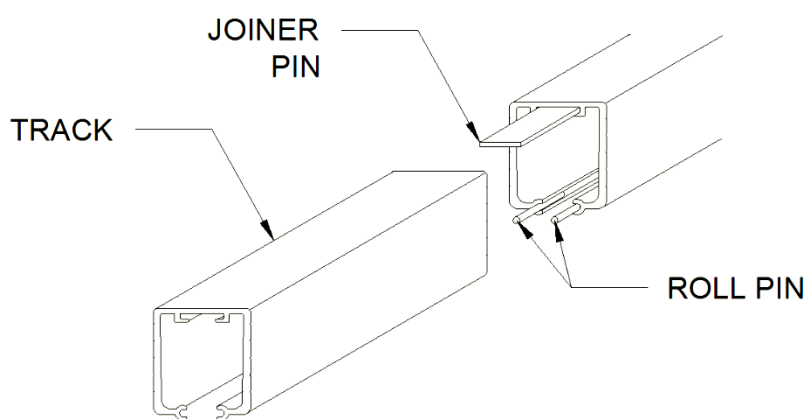

Figure 4
- When all panels are in the Track, insert the Joiner Pin & Roll Pins to join and complete the door width where the door has to travel (Fig.4)